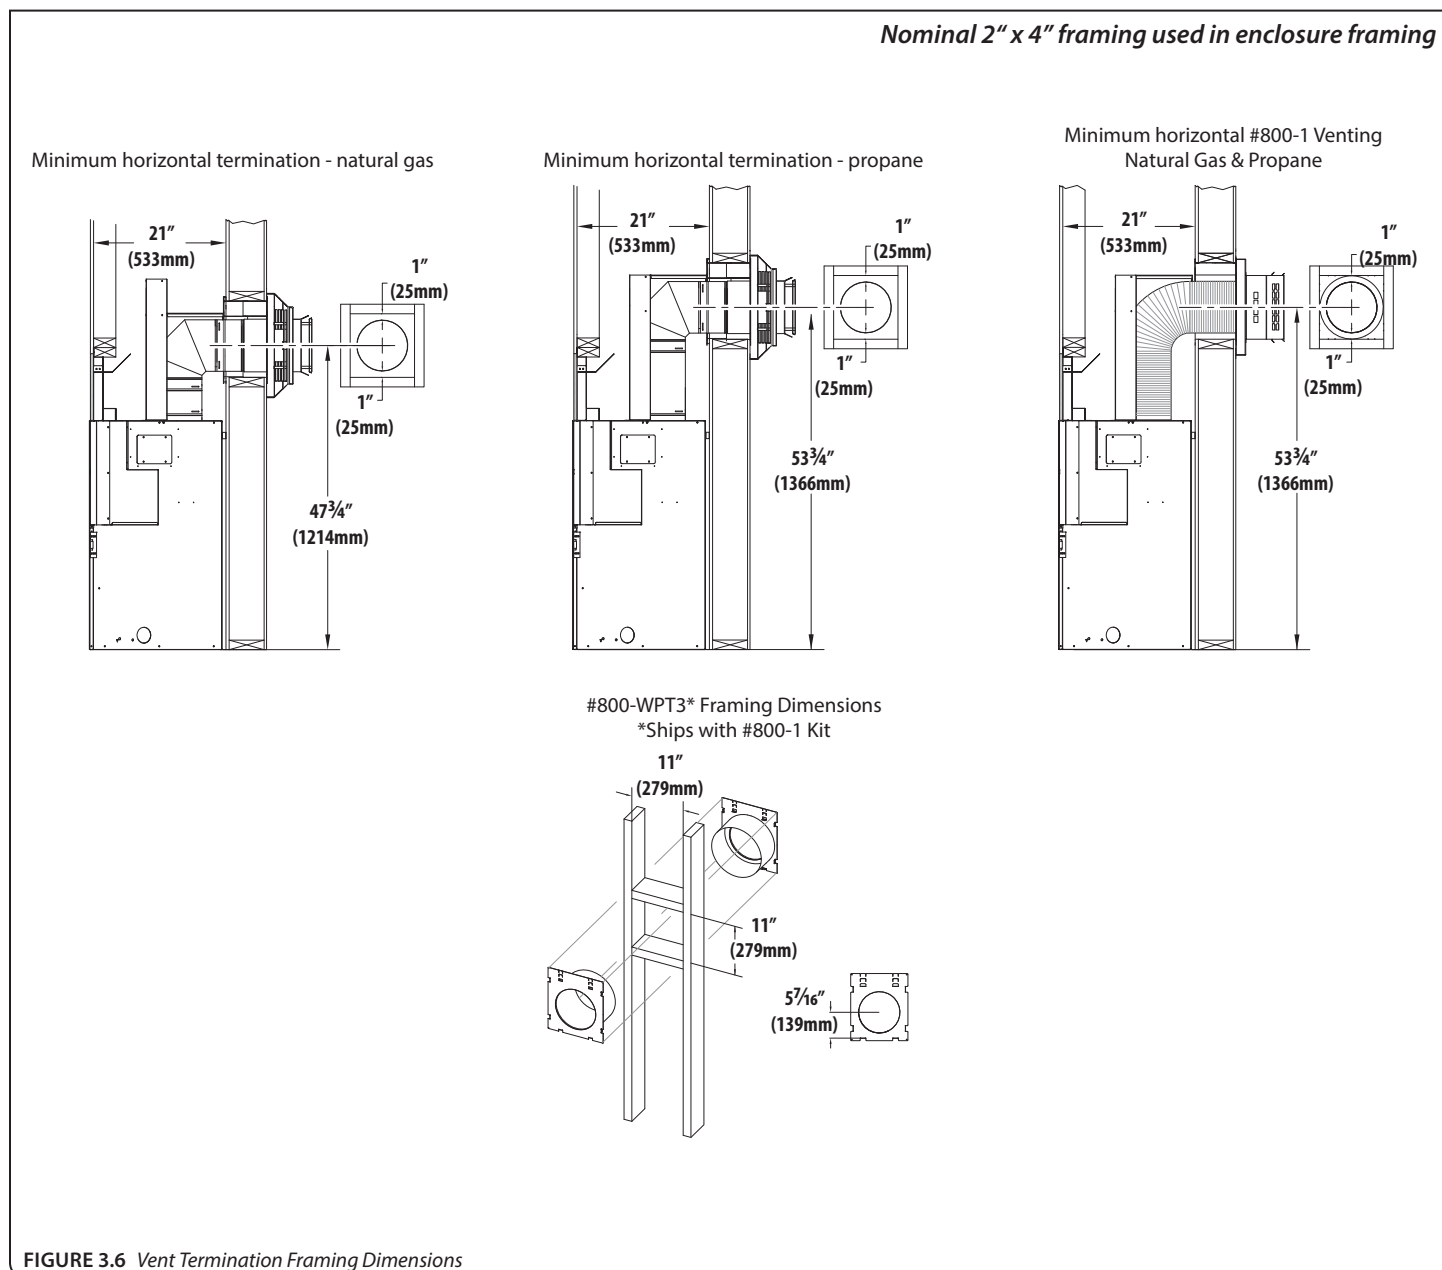

FIGURE 3.6 Vent Termination Framing Dimensions
- Rigid pipe dimensions in **FIGURE 3.6** reflect Simpson Duravent 5" x 8" coaxial pipe. Other manufacturers product dimensions may vary.
- Flexible pipe framing dimensions in **FIGURE 3.6** reflect Kozy Heat #800 Series Flexible Vent System.